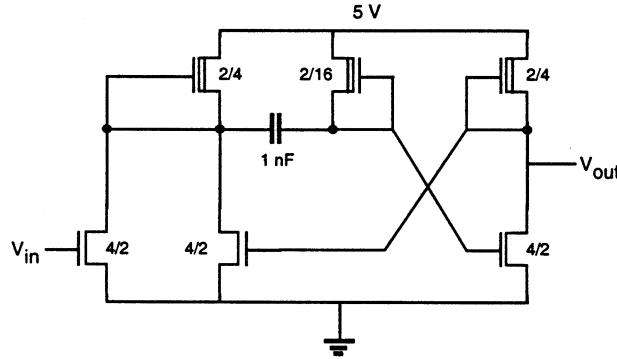

Figure P8.4
- 8.4 Consider the monostable multivibrator circuit drawn in Fig.P8.4. Calculate the output pulse width.